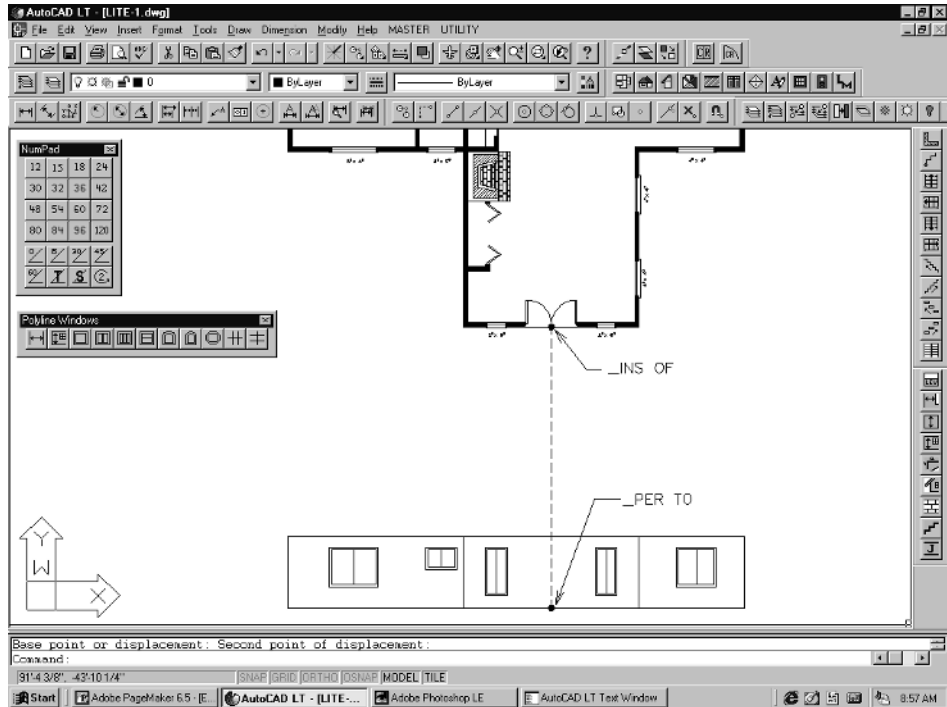

Figure 6-71
8. The last prompt is *per to*. This is telling you to pick on the floor line of the elevation wall. The cursor will automatically grab the perpendicular point of the floor line as you pass the cursor over it. See Figure 6-71.